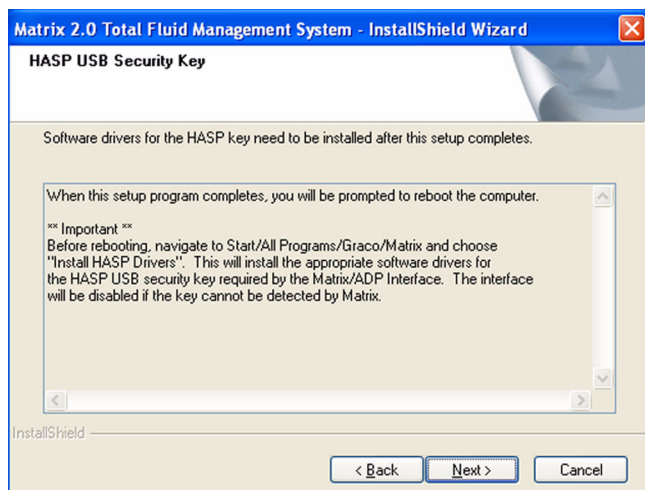

FIG. 18 HASP USP Security Key Install Screen
12. Matrix software setup is complete. Before you restart your computer run the setup program for the HASP key software drivers (see FIG. 18).